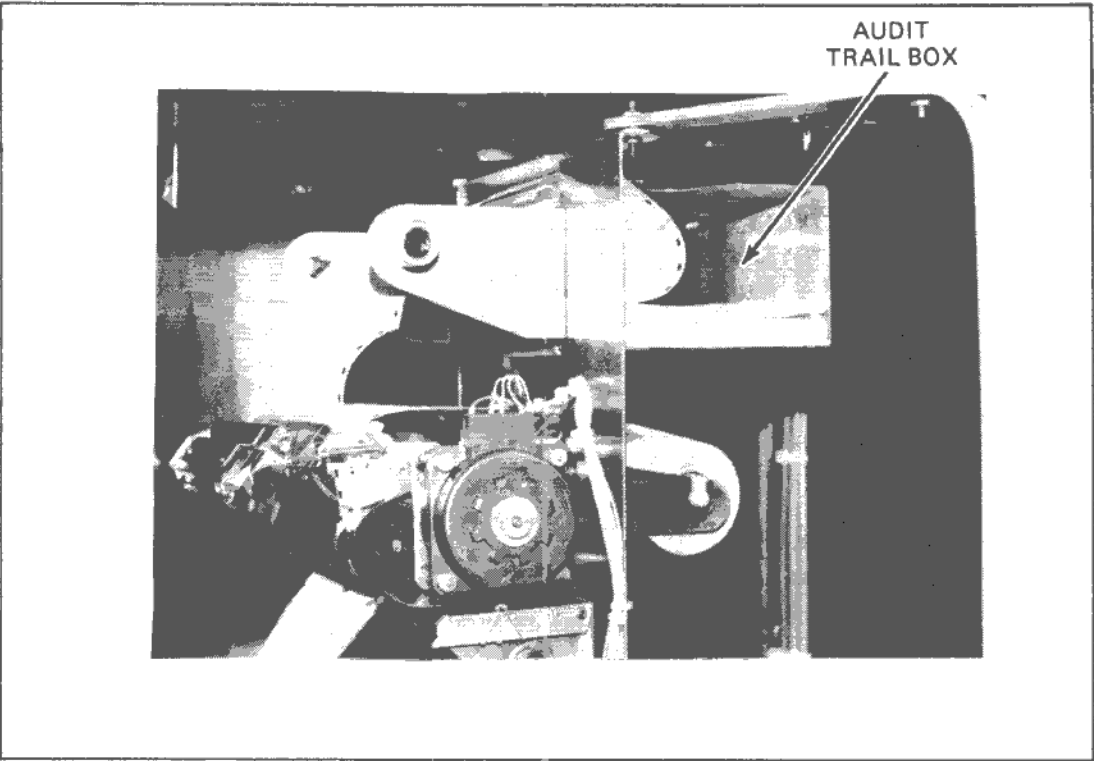

Figure 3-28. Audit Trail Box
7. Feed the paper into the slot located on the panel of the printer mechanism, ensuring that the pressure-sensitive side of the audit trail paper faces the lower edge of the slot as the paper passes through (refer to figure 3-28). Note that the pressure-sensitive side of the audit trail paper can be identified as the side which can be marked by the scratch of a finger-nail.